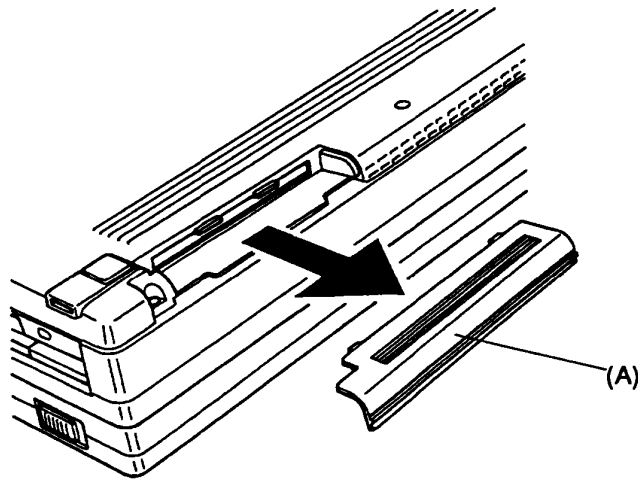

Figure 4-3 Removing the EXP. MEMORY cover
3. Remove the **EXP. MEMORY** cover (A) (Figure 4-3).
2. Replace the **EXP. MEMORY** cover; its latch should snap into place (Figure 4-3).